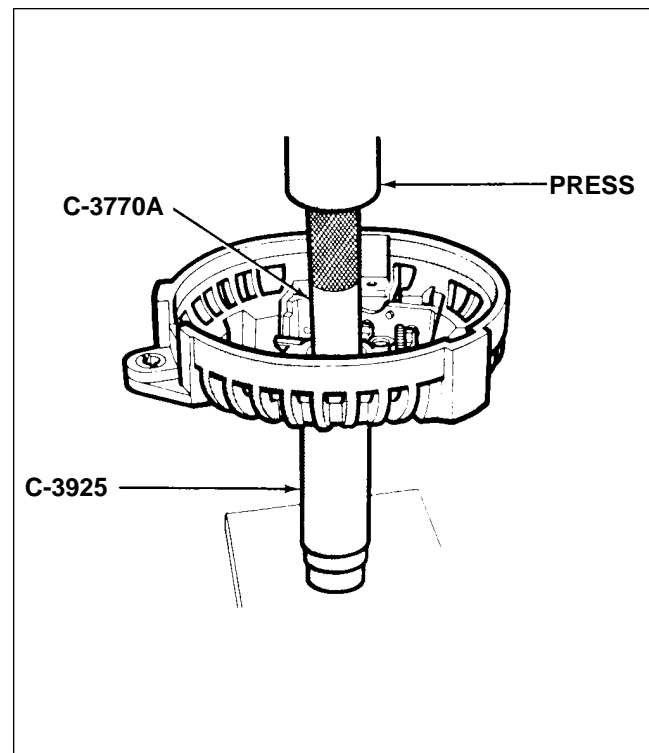

Figure 11-29. Removal of Rectifier
- Needle bearing in rectifier end shield is a press fit. If necessary to remove rectifier end shield needle bearing, protect end shield by supporting shield with tool C-3925 when pressing the bearing out with tool C-3770A. (Refer to figure 11-29.)